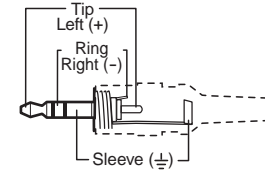

Figure 7 — 3.5 mm stereo audio plug
- ③ **Monitor connector** — Connect a video monitor to this 15-pin HD connector for buffered, high resolution video loop-through.
- ④ **Audio input connector** — Plug a 3.5 mm stereo audio plug into this jack for unbalanced audio input. Wire the plug as shown in figure 7.
**NOTE** Figure 7 shows a typical audio connector, which consists of a tip, ring, and sleeve.